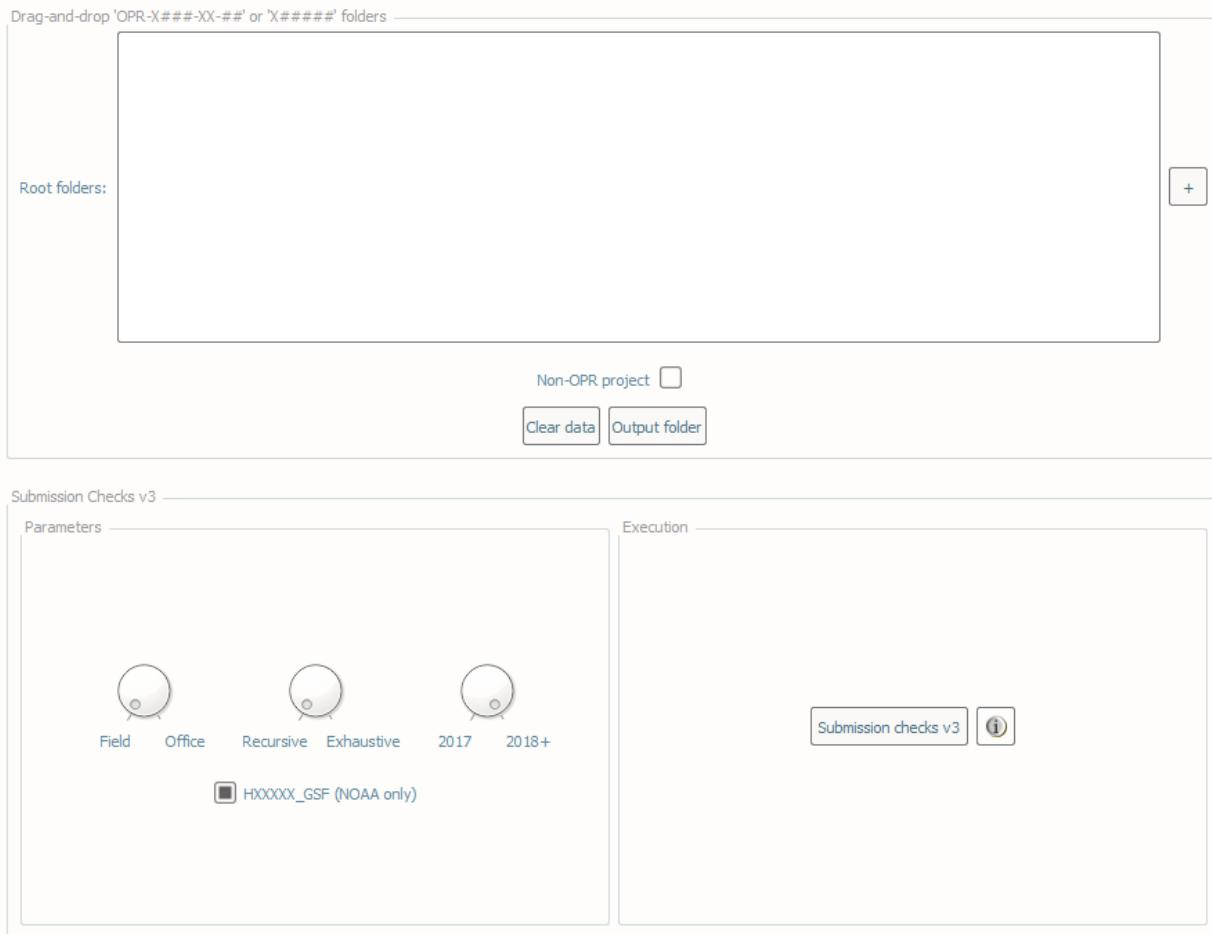

Fig. 2.52: The **Submission check** interface.
- In **Parameters** (Fig. 2.52, left side):
- In **Execution** (Fig. 2.52, right side), click **Submission checks v3**.